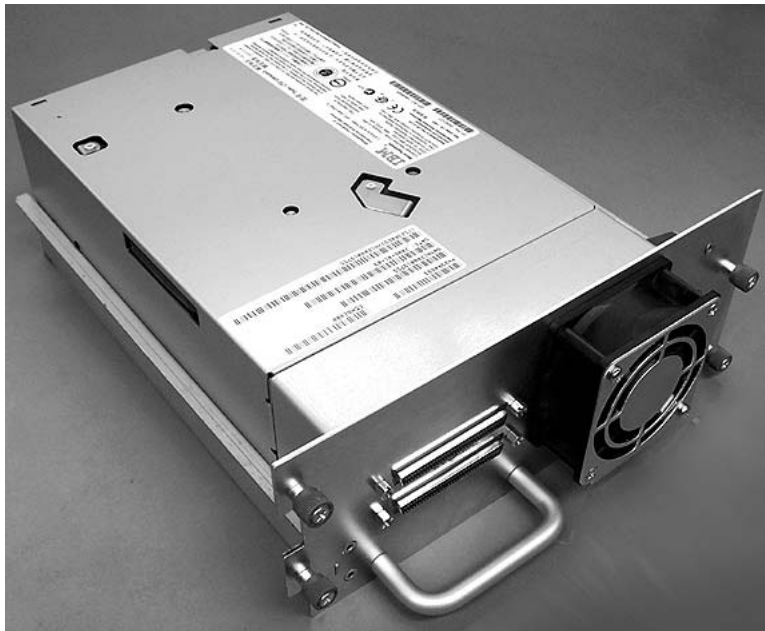

Figure 10-4. Library drive sled without ElectroStatic Discharge (ESD) springs (SCSI sled shown)
- Drive sled without ElectroStatic Discharge (ESD) springs (see Figure 10-4) ship group:
6. If you are installing a drive sled without ESD springs (see Figure 10-4 on page 10-3), apply conductive tape to the sled as shown in Figure 10-9 on page 10-7.
4. If you are installing a drive sled without ESD springs (see Figure 10-4 on page 10-3), apply conductive tape to the sled as shown in Figure 10-9 on page 10-7.